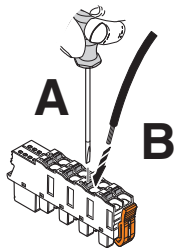

Figure 8-3 Connecting a stranded cable
- Open the spring by pressing the screwdriver onto the spring lever (Figure 8-3, A). Use, for example, a bladed screwdriver with a blade width of 2.5 mm. Phoenix Contact recommends the SZS 0,4x2,5 screwdriver (see Section "Ordering data" on page 142).
- Insert the cable in the terminal point (B).